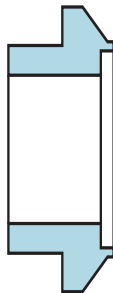

Figure 8-3: Split Thrust Collar,
2. Bolt the split thrust collar (or split ring plus thrust collar in larger sizes) into place at the mating groove on the shaft. Figures 8-3 and 8-4 show the placement of both types of collars.